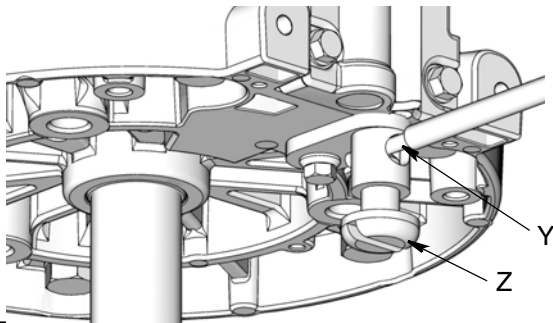

FIG. 5
**Pump:** use ground wire and clamp (as shown in FIG. 5). Connect the other end of the ground wire to a true earth ground.
1. Remove the ground screw (Z) and insert through eye of the ring terminal at end of ground wire (Y).
2. Fasten the ground screw (Z) back into the pump and tighten securely.